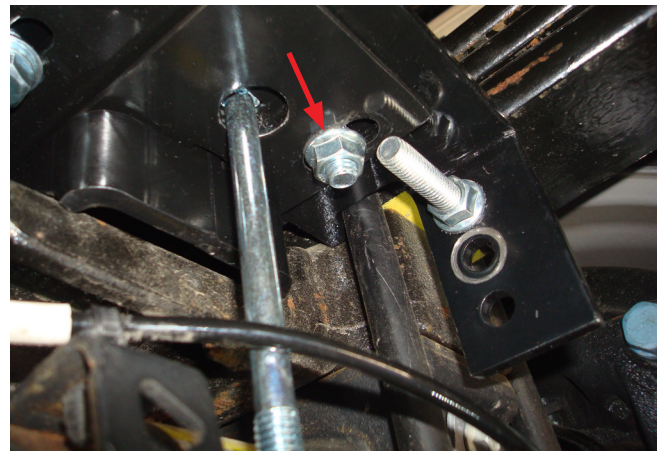

Fig. 33
11. Torque the nut (Q) to 32 lbs. ft (43 N-m) on both sides (Fig. 33).